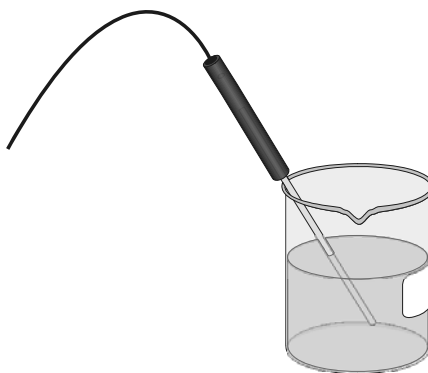

Figure 1
4. Place the Temperature Probe into the cold water and stir briefly. Then position the probe in the cold-water beaker as shown in Figure 1. **Note:** Make sure the beaker will not tip over from the weight of the Temperature Probe.